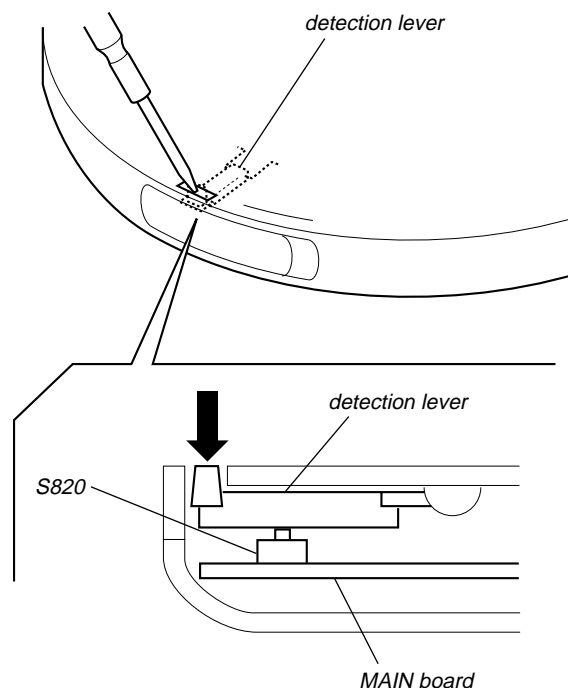

Fig. 1 Method to push the S820
- With a disc not set, turn on the S820 with a screwdriver having a thin tip as shown in Fig.1.